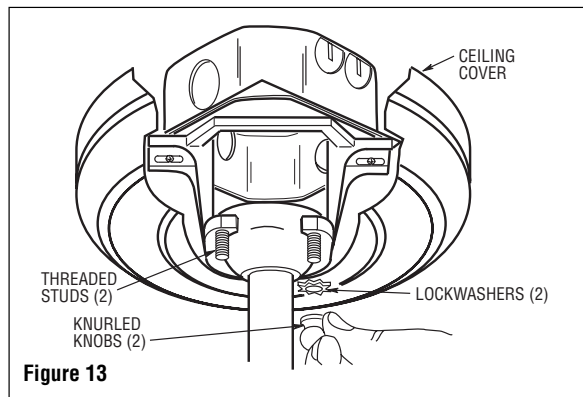

Figure 13
7. Lift the ceiling cover up to the threaded studs and turn until studs protrude through the holes in the ceiling cover (Figure 13).
8. Secure the ceiling cover in place by sliding lockwashers over the threaded studs and installing the two knurled knobs (supplied). (Figure 13).